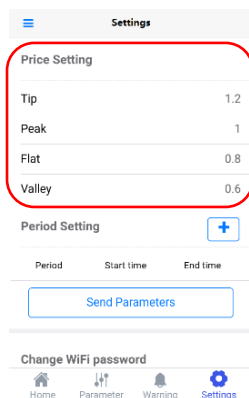

Figure 4-3
STEP 5: Price setting (Figure 4-3).